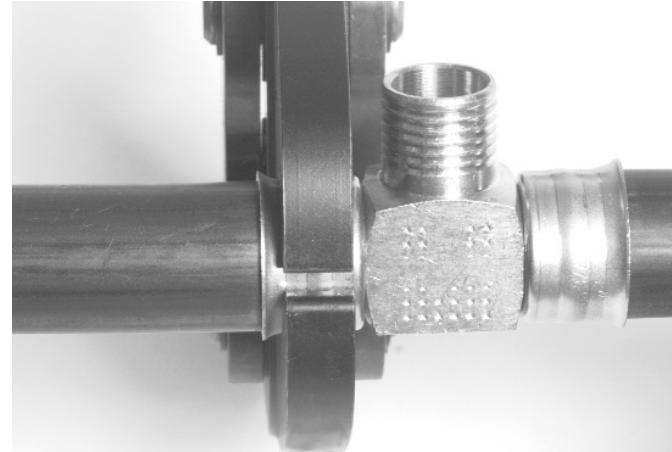

Figure 2 – Placing Jaw Squarely Onto PureFlow® Fitting
- Place open jaw around the fitting. Make sure the raised lip of the stainless steel sleeve is properly aligned with the jaw (Figure 2).
- Make sure the jaw is square to the tubing (Figure 2) and depress tool trigger. The press cycle takes about six (6) seconds. Once a press cycle begins and the rollers contact the jaw arms, the tool will lock-on and automatically complete the press cycle. Releasing the trigger will not stop the tool once the pressing process has begun. This assures consistent, repeatable pressed connection integrity.